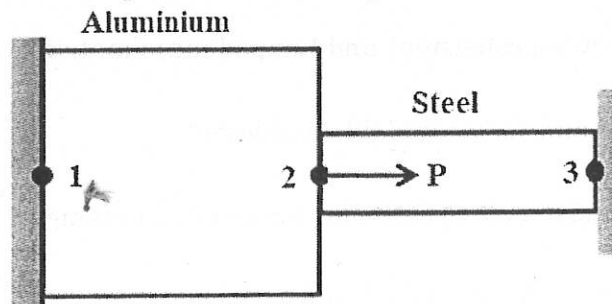

Figure. 2
12. (a) Consider a bar with fixed ends shown in Figure 2. An axial load  $P=200 \times 10^3$  N is applied as shown. Using elimination method of boundary condition, determine: (i) Nodal displacements, (ii) Stress in each element, and (iii) Reaction forces. Take  $A_1 = 2000$  mm2,  $E_1 = 70$  GPa,  $L_1 = 500$  mm,  $A_2 = 500$  mm2,  $E_2 = 200$  GPa and  $L_2 = 400$  mm.